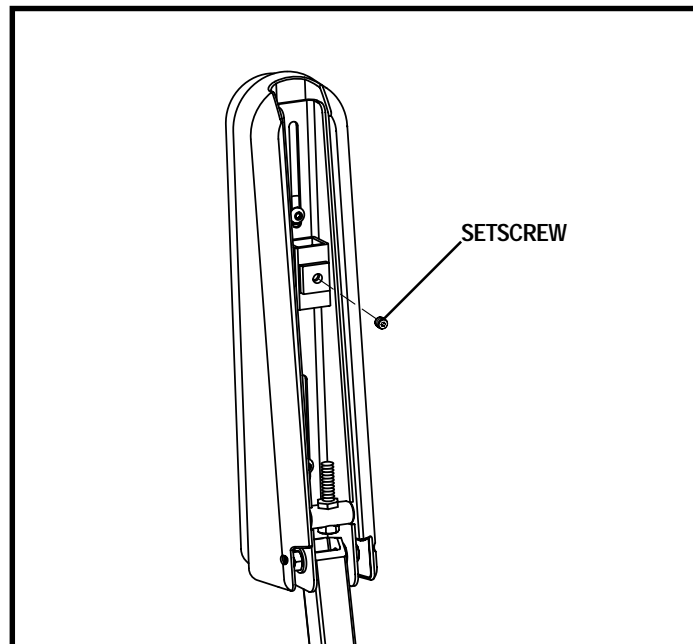

Figure 15. Underside of Armrest
2. Loosen the setscrew on the controller bracket. See figure 15.
5. Loosen the setscrew. See figure 15.